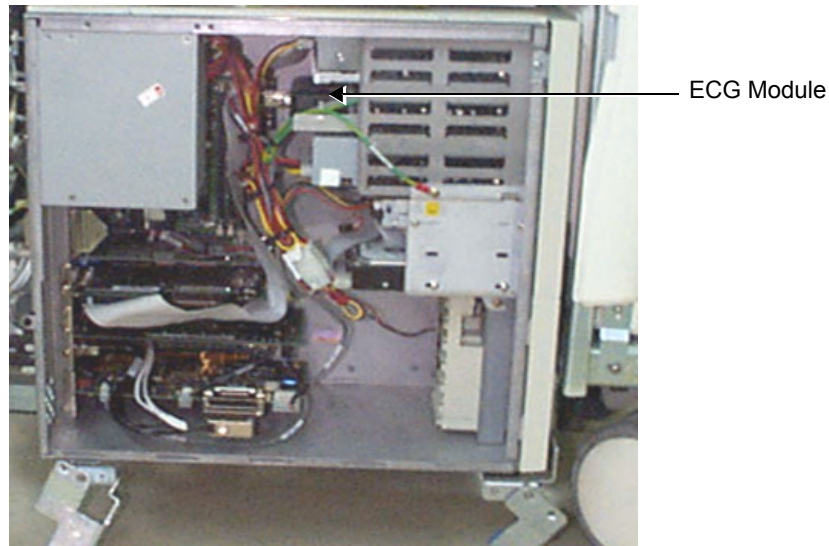

Figure 8-68 ECG Module - BEP1
- 8) Disconnect the power cable and COM2 cable from the rear of the ECG Module - see Figure 8-68 below.